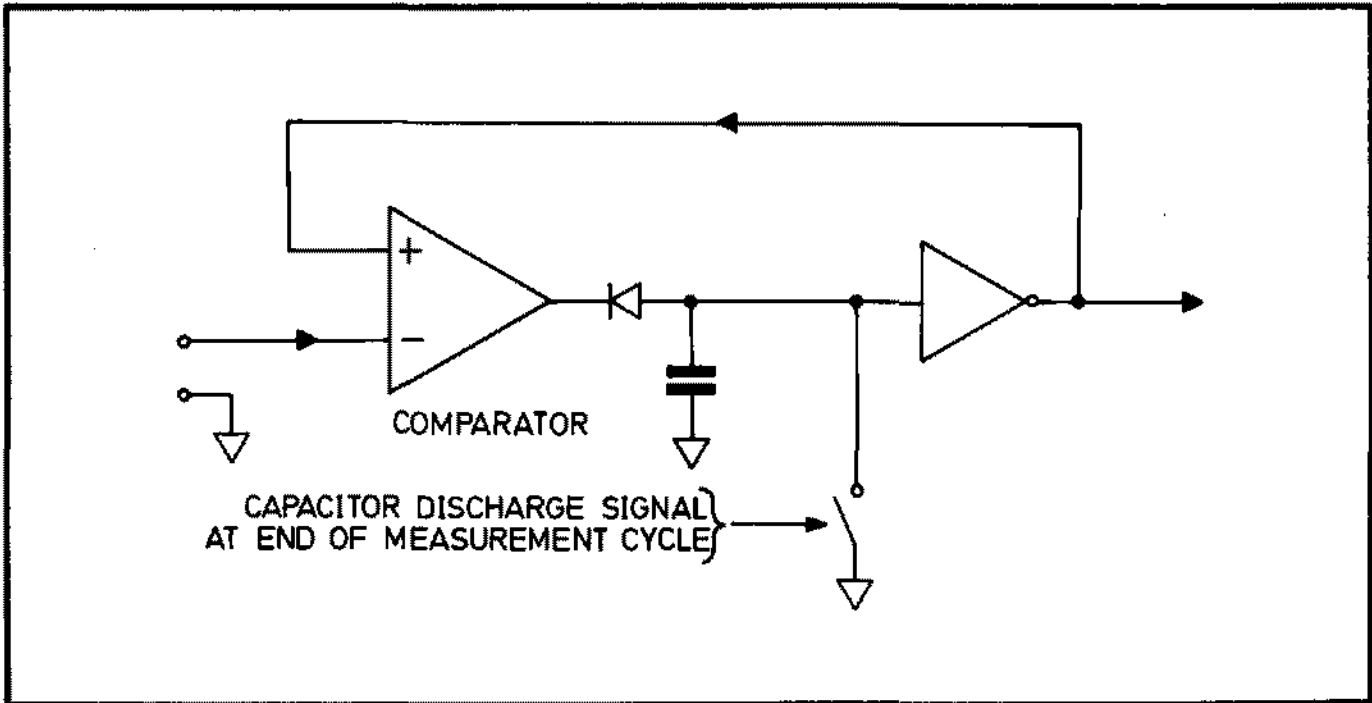

Fig. 5.6 The Negative Peak Detector
5.3.1.12.1 Two peak detectors are mounted on assembly 19-1022, and provide DC outputs proportional to the positive and negative peak values of the AC component of the signal which occur during a measurement interval. Each detector uses the basic feedback loop, shown in Fig. 5.6, which acts as a unidirectional voltage tracking circuit. The connections shown are those for the negative peak detector. It should be noted that there is signal inversion in the AC switched gain amplifier, and the negative peak detector is required to measure the positive peak of the waveform at the comparator input.